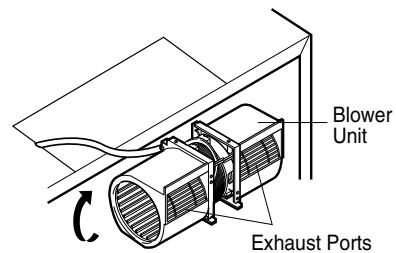

Figure 17
5. Rotate the blower unit so that the exhaust ports face the rear of the cabinet. See Figure 17.